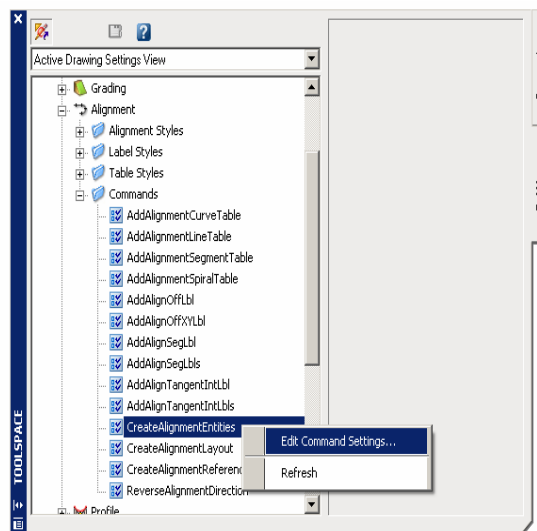

Figure 8B. Edit command settings.
- Change the command settings for an object to provide greater control over how the object will be created or edited, as shown in Figure 8B. For example, define that all alignments created “by Polyline” would default to a different style and layer than alignments created using the Layout command.